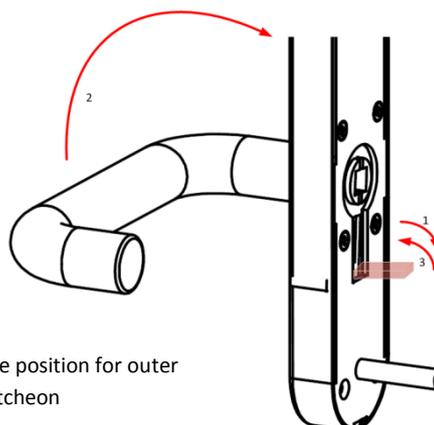

Fig. 2. Alter handle position for outer escutcheon
A. Outer escutcheon (See Fig. 2)